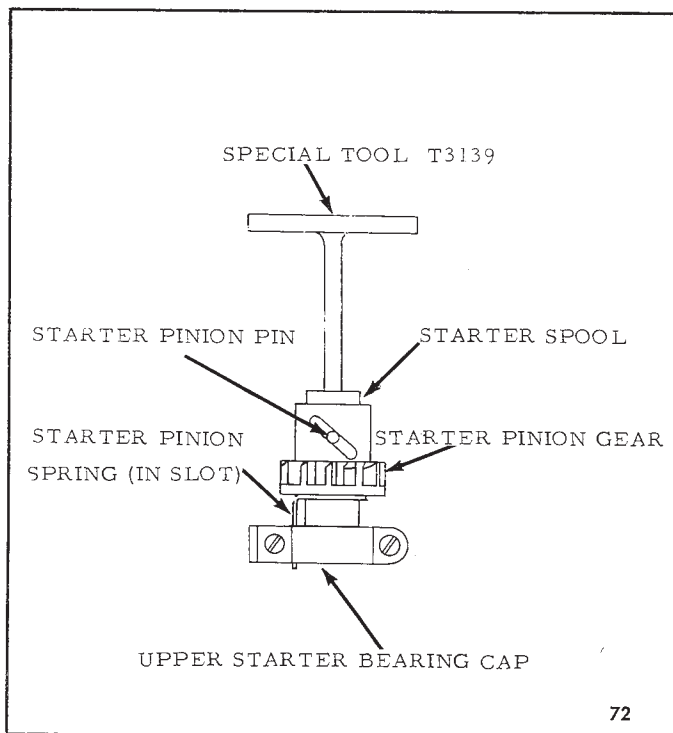

FIGURE 4—STARTER REWIND TOOL
11. Install the starter bearing caps, making sure that match marks are together. The leg of the starter pinion spring should be inserted in the slot formed by the upper bearing cap. Ref: Figure 4.